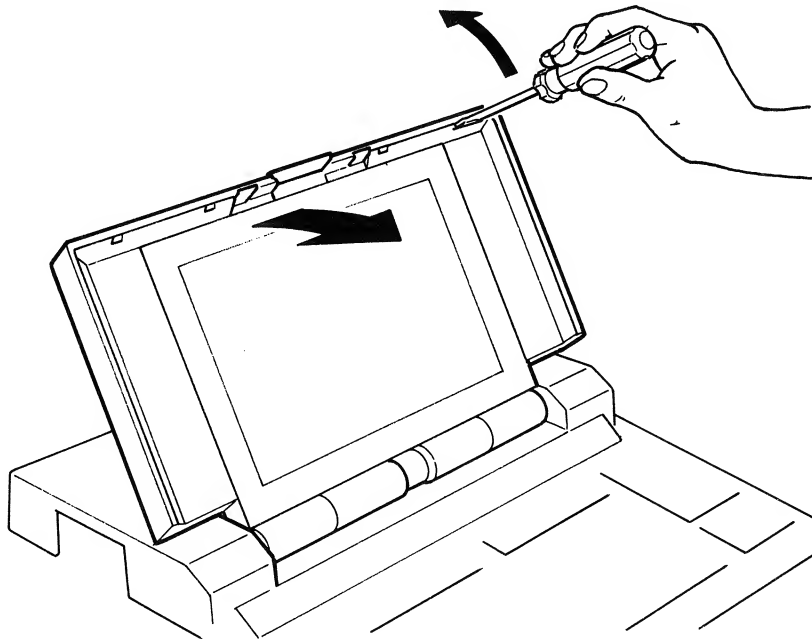

Fig. 5
2. Using a blade-type screwdriver, open the upper part of the display panel. Then pull out the panel toward you until it is completely released. (See Fig. 5.)